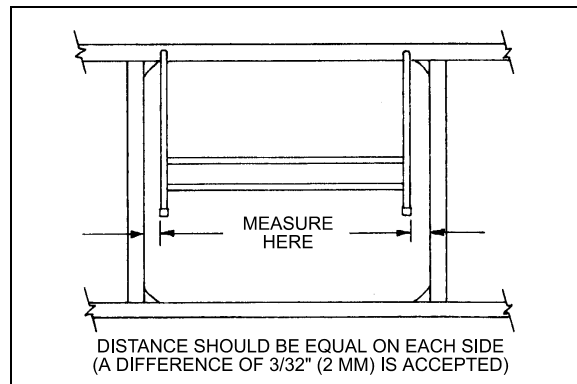

FIGURE 53: PANTOGRAPH DOOR ADJUSTMENT 18063
- When the door is straight, remove the 2x4's and check door operation and fit. A difference of  $3/32$ " (2mm) between both sides is accepted (Fig. 53).